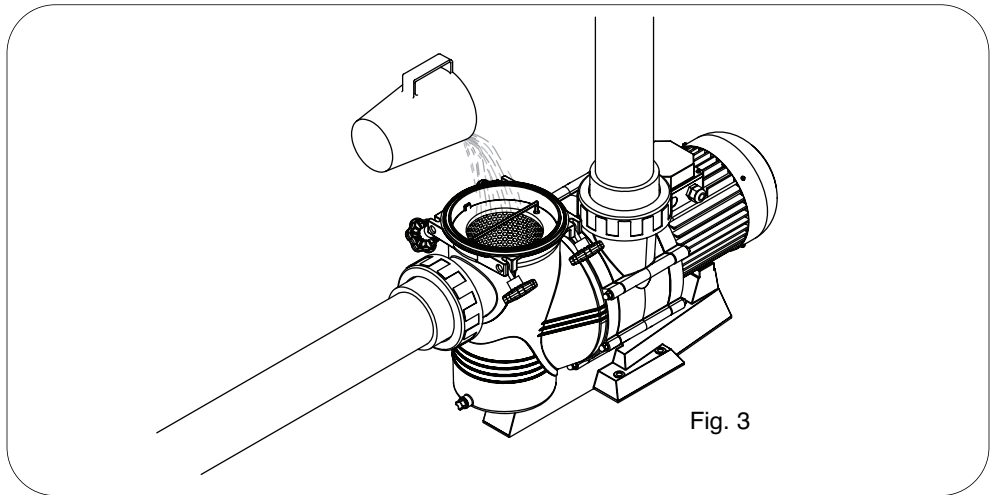

Fig. 3
- For a correct operation, the pump must be primed until water rises from the suction tube.( Fig.3)
- The pumps should never work without having been filled with water beforehand as, otherwise, this could cause a damage to the mechanical seal and eventually producing a water leak. (Fig.3)